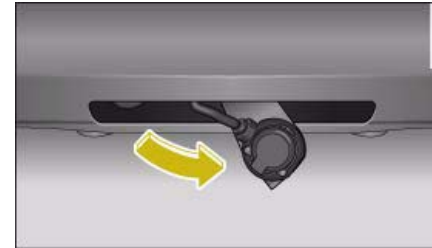

Fig. 204 Area below rear bumper: Folding up the socket
- Then swivel the socket up ⇒ fig. 204 **as far as it will go**. The mounting fixture will be closed automatically.